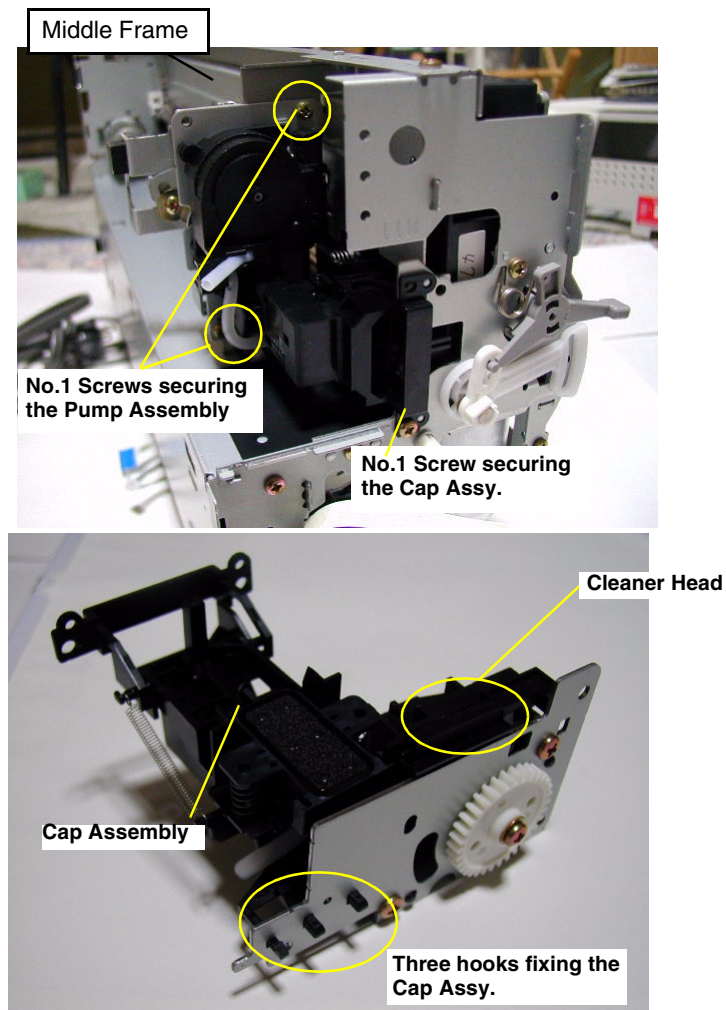

Figure 4-15. Removing the Pump Assembly & Cap Assembly
Then, from the Right Frame, remove one screw (No.1) securing the Cap Assembly in the Ink System Assembly. Refer to Figure 4-15.
- 7) Release three hooks fixing the Cap Assembly to the Metal plate for Ink System Assembly and remove the Cap Assembly. Refer to Figure 4-15.